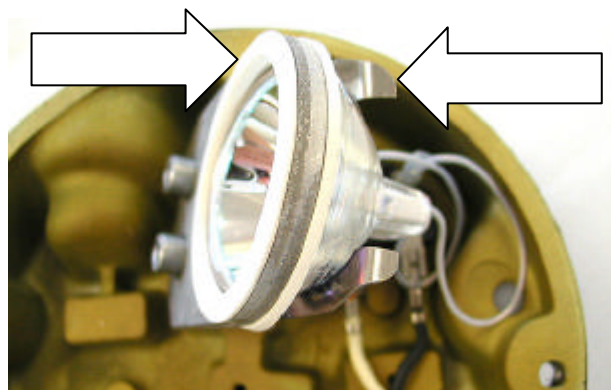

Fig. 10. Detail of lamp gasket & retaining spring in good condition.
- Check the condition of the lamp gasket and, when it has become embrittled replace it with a 'new' item. (See **Fig. 10**).
- Ensure that the lamp gasket is seated correctly in the lampholder. (See **Fig. 10**).
- Check the lampholder condition and the lamp retaining spring for lack of spring pressure. (See **Fig. 10**).